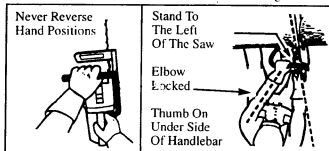

Figure 7
1. **Keep a good, firm grip on the saw with both hands when the engine is running and don't let go.** Figure 7. A firm grip can neutralize kickback and help you maintain control of the saw. Keep the fingers of your left hand encircling and your left thumb under the front handlebar. Keep your right hand completely around the rear handle. Keep your left arm straight with the elbow locked.
2. **Position your left hand on the front handlebar so it is in a straight line with your right hand on the rear handle.** Figure 7.
5. **Stand slightly to the left side of the saw to keep your body from being in a direct line with the cutting chain.** Figure 7.